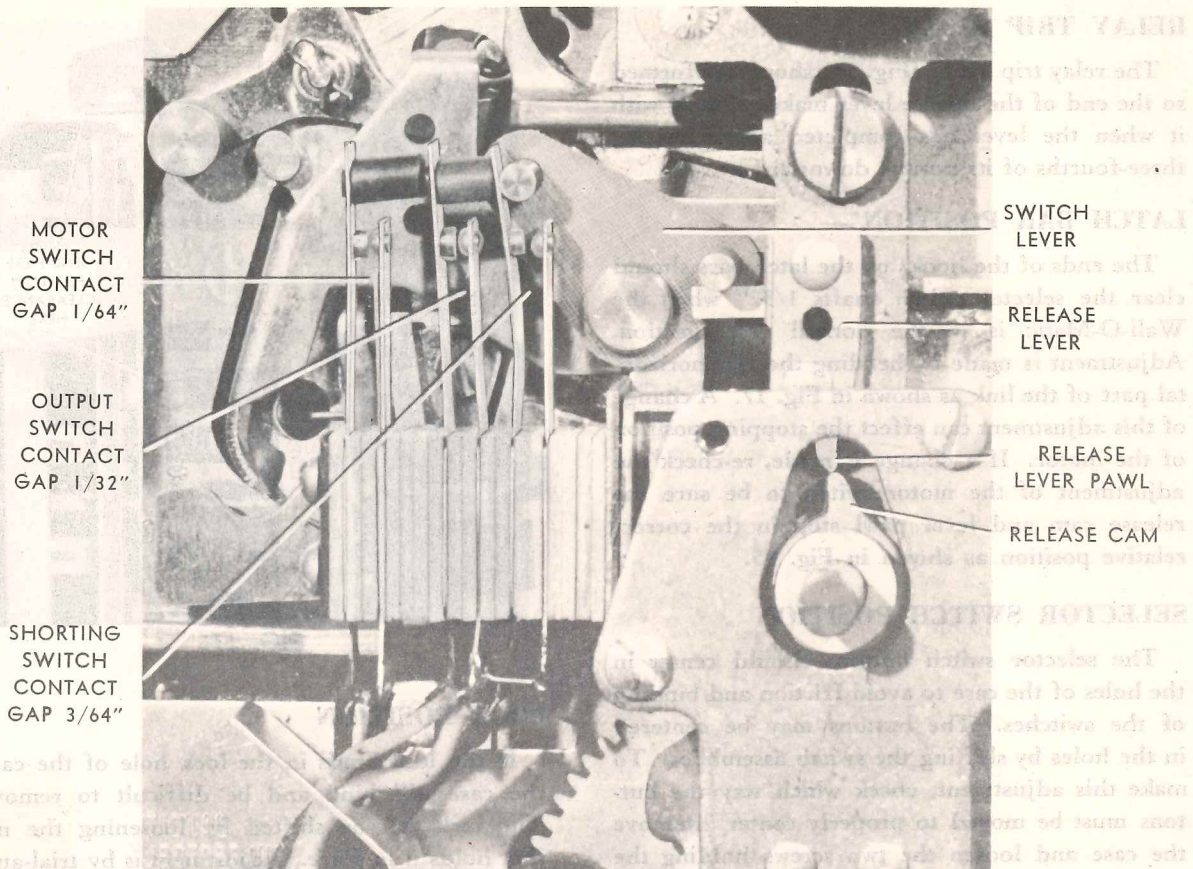
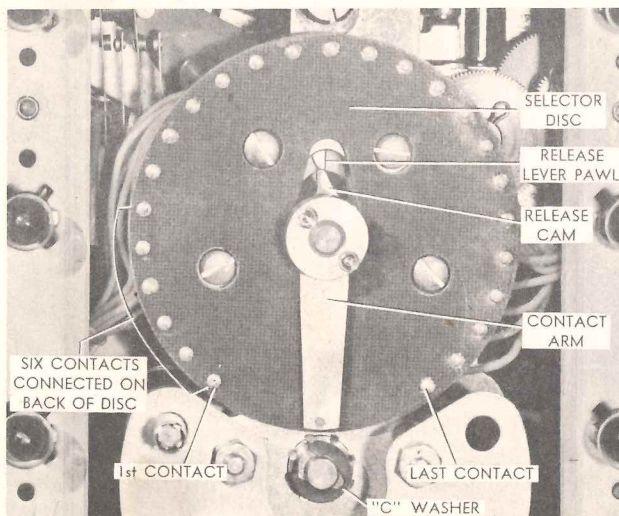
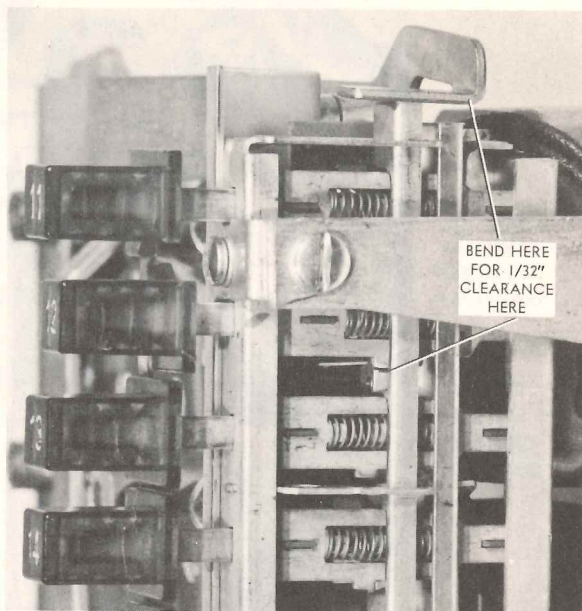

FIG. 14 MOTOR SHORTING AND OUTPUT SWITCHES
FIG. 15
FIG. 17
3. Remove the C-washer shown in Fig. 15.
When replacing the switch, be sure the release cam and the release lever pawl are as shown in Fig. 15 or the snap-action switches will not be in the correct relative positions when assembly is completed. To replace the switch, proceed as follows:
Failure of the selection switches to operate properly results, usually, in wrong selection. Continuity of the switches can be checked from the contacts on the selector disc. There should be a circuit between the first and last contact (in terms of contact arm rotation) when all the switches are in the normal rest position. A check of this can be made with an ordinary ohmmeter. **THE LINE CORD SHOULD BE DISCONNECTED DURING THIS TEST.** Connect the ohmmeter to the first and last contacts (see Fig. 15). Continuity should be indicated. An open circuit would indicate failure of one of the selection switches to make proper contact. Trace for an open circuit by connecting the ohmmeter to the first contact on the disc and to each contact in turn beginning with the second contact. A contact will be found where continuity is had but the next one and all beyond it will show no circuit. Numbering the contacts beginning with the first one, if the first open contact is #7, the #1 selection switch is not closing or there is a break in the wire from the #1 contact to the selector switch. If the first open contact would be #10 (for example), a defective #4 selection switch is indicated. If continuity is had to all the contacts except one, check for a broken connection between that contact and the selection switch.
Adjustment of the motor, shorting, and output switches (shown in Fig. 14) is made as follows with the release cam and release lever pawl in the relative positions shown in Fig. 15:
2. Adjust the contact gaps as shown in Fig. 14 by bending the short blades.
5. Check the adjustment by operation. The motor should stop with the release cam and lever pawl as shown in Fig. 15.
1. Set the position of the contact arm on the shaft so it comes to a stop at the end of an operating cycle with the tip approximately midway between the first and last contacts on the selector disc as shown in Fig. 15.
The ends of the hooks on the latch bars should clear the selector switch shafts $1/32''$ when the Wall-O-Matic is in the normal rest position. Adjustment is made by bending the flat horizontal part of the link as shown in Fig. 17. A change of this adjustment can effect the stopping position of the motor. If a change is made, re-check the adjustment of the motor switch to be sure the release cam and lever pawl stop in the correct relative position as shown in Fig. 15.